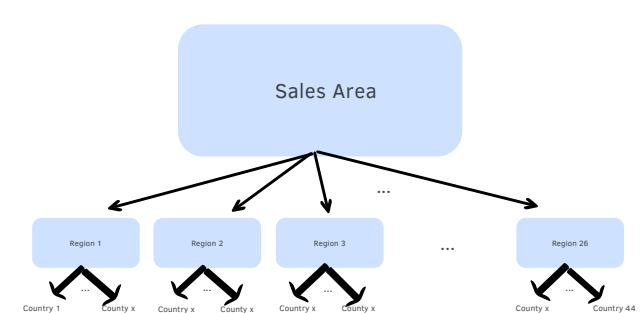

Fig. 4: Location Hierarchy
- Thirdly, the *Location Hierarchy* explores the customer *Sales Area*, the *Region* and the *Country*, Figure 4.